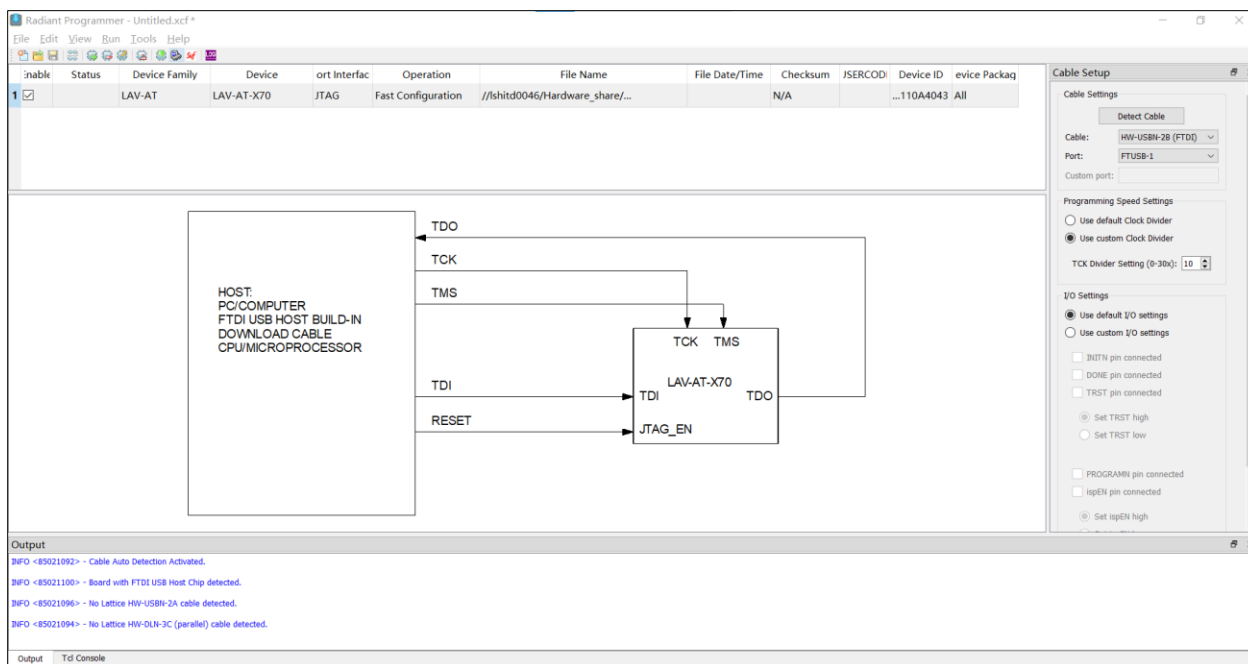

Figure 4.2. Radiant Programmer
4. The Radiant Programmer interface opens as shown in Figure 4.2. Select FTUSB-1 Port in the cable Setup field.